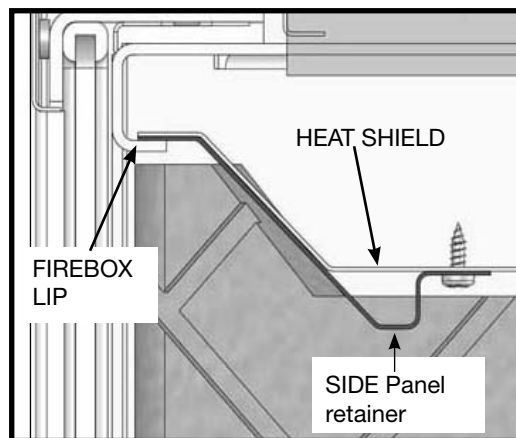
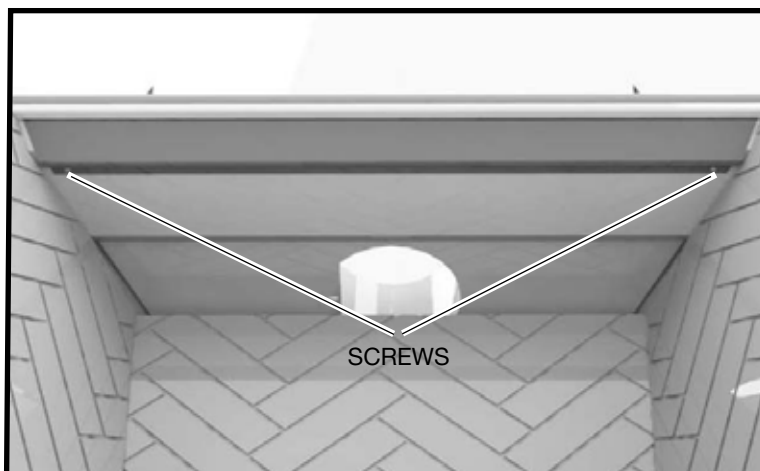

Figure 58: TC36D Side panel retainer.
Figure 59: TC36D Side panel retainer screw location.
1. Remove the Side Panel Retainer located on the underside of the firebox heat shield. The retainer slips between the lip of the firebox and the heat shield and is retained in place by two screws (Figure 58 and Figure 59).